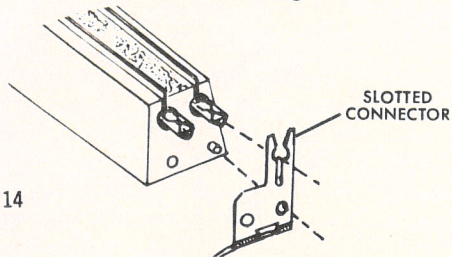

FIG. 14
- Note that the connecting wires have a spade lug at one end and a special slotted brass connector at the other. Fit one of these connectors to the end of the track section so that the slot in the connector snaps over the track clip. The little knob in the track end should fit through one of the holes in the connector. (Fig. 14)